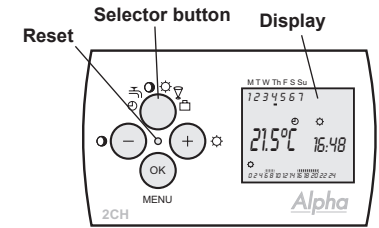

Fig. 5
- Transmitter** - In normal operation the display will show the temperature and time as shown in Fig. 5 for 50 seconds and then the hot water programme for 10 seconds.
### 5. User Instructions - see Fig. 5